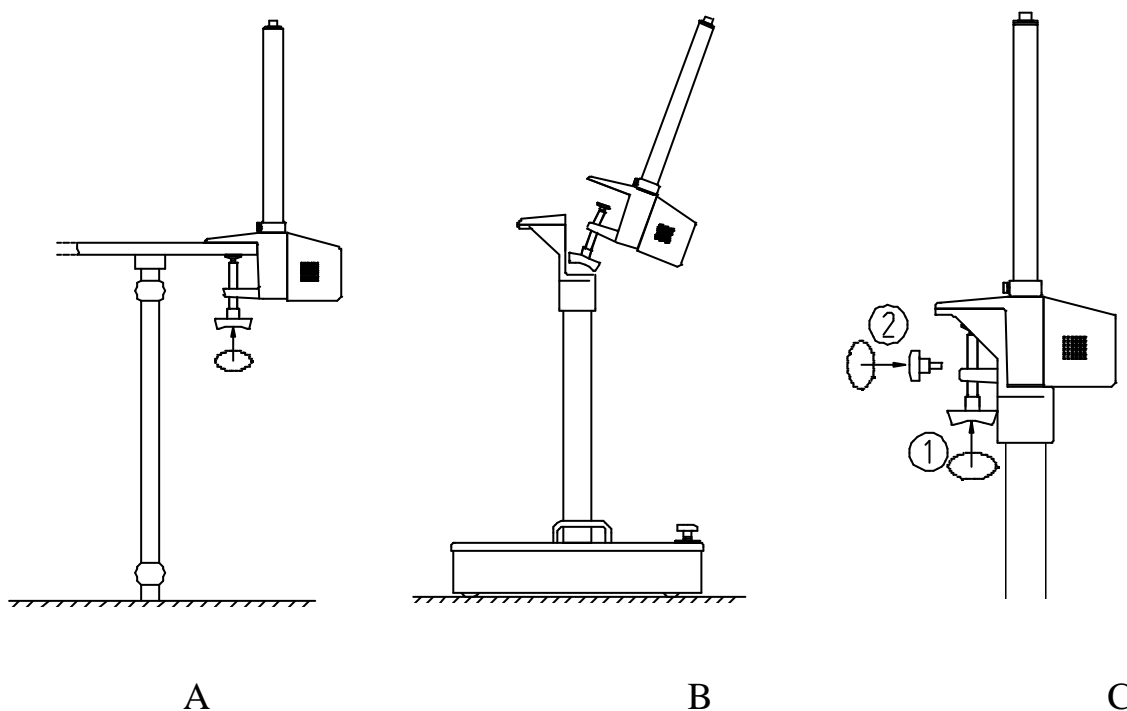

Figure 3 Attaching the clamp to a mounting surface
2. Fix the clamp to the operating table about 40 cm from the head of the table. The clamp may be fixed on either side of the table. Make sure that the clamp is pressed firmly against the side of the table before tightening. Refer to figure 3 (A).